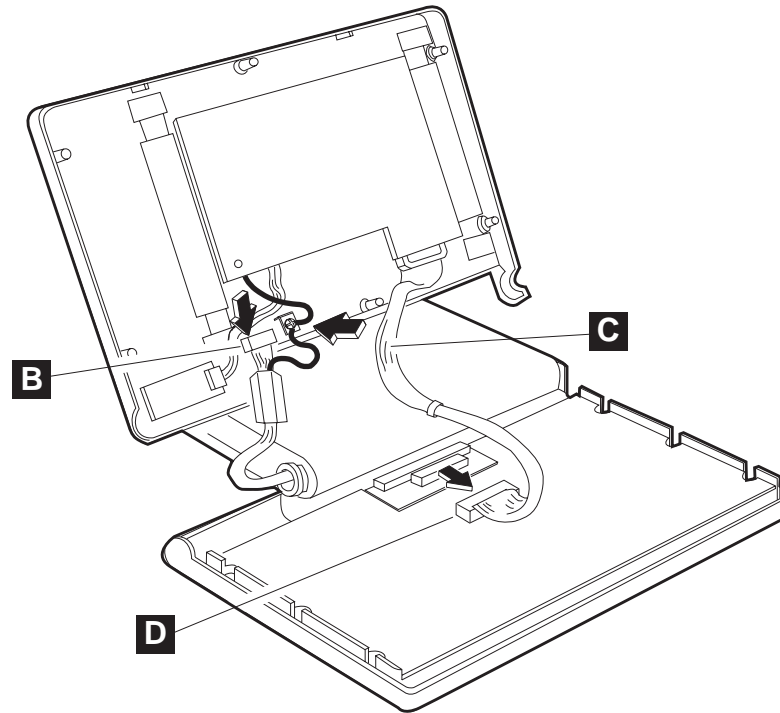

Figure 60. Removing the screws
3. Disconnect the connector to the VFD assembly at the end to the logic board (**B** in Figure 60 on page 61)
3. Disconnect the cable from the keyboard matrix unit (**D** in Figure 60).